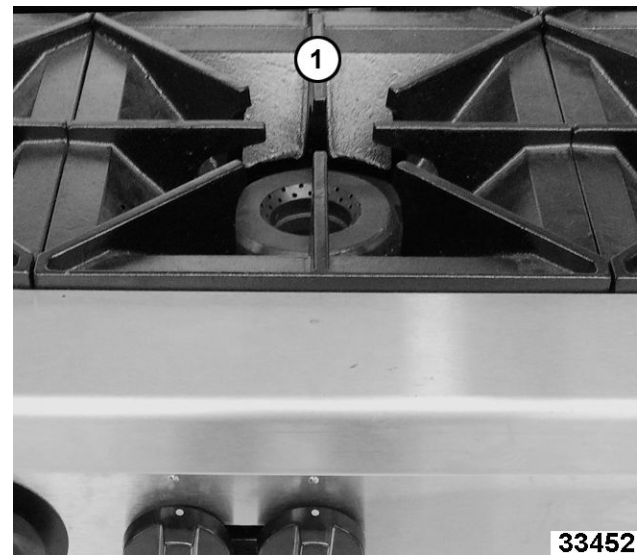

Fig. 24
1. Remove burner grates (1, Fig. 24).